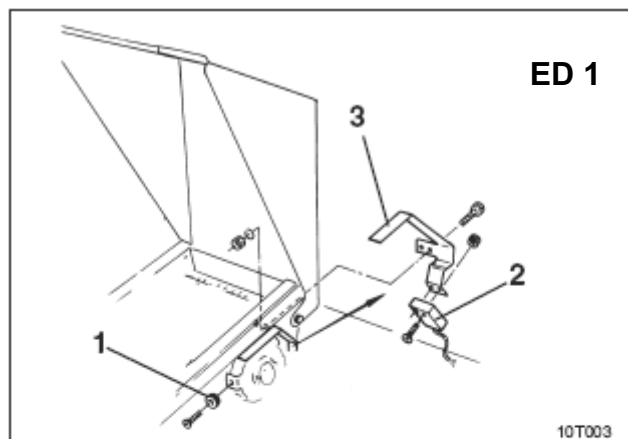
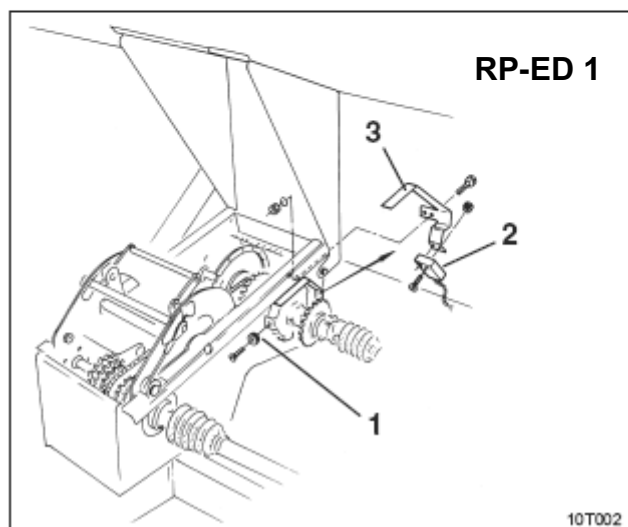

Fig. 9.6
Fig. 9.7
Attach sensor and magnet for **ED 1** (Fig. 9.6) and/or **RP-ED 1** (Fig. 9.7) to input of chain wheel adjustment gear:
- ☐ Bolt magnet (Fig. 9.6/1 / Fig. 9.7/1) with self-tapping screw M4 x 10 onto impulse disc of gearbox input shaft.
- ☐ To attach the sensor, loosen impulse holder (Fig. 9.6/3 and/or Fig. 9.7/3) and then re-bolt.
- ☐ Bolt sensor (Fig. 9.6/2 or Fig. 9.7/2) to impulse holder (Fig. 9.6/3 and/or Fig. 9.7/3).